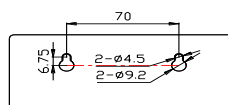

Figure 26 Two wires: Automatic Generator Start
- **Two wires:** needs only one relay to control the “Start” and “Stop” of generator. Please refer to following Figure 26.